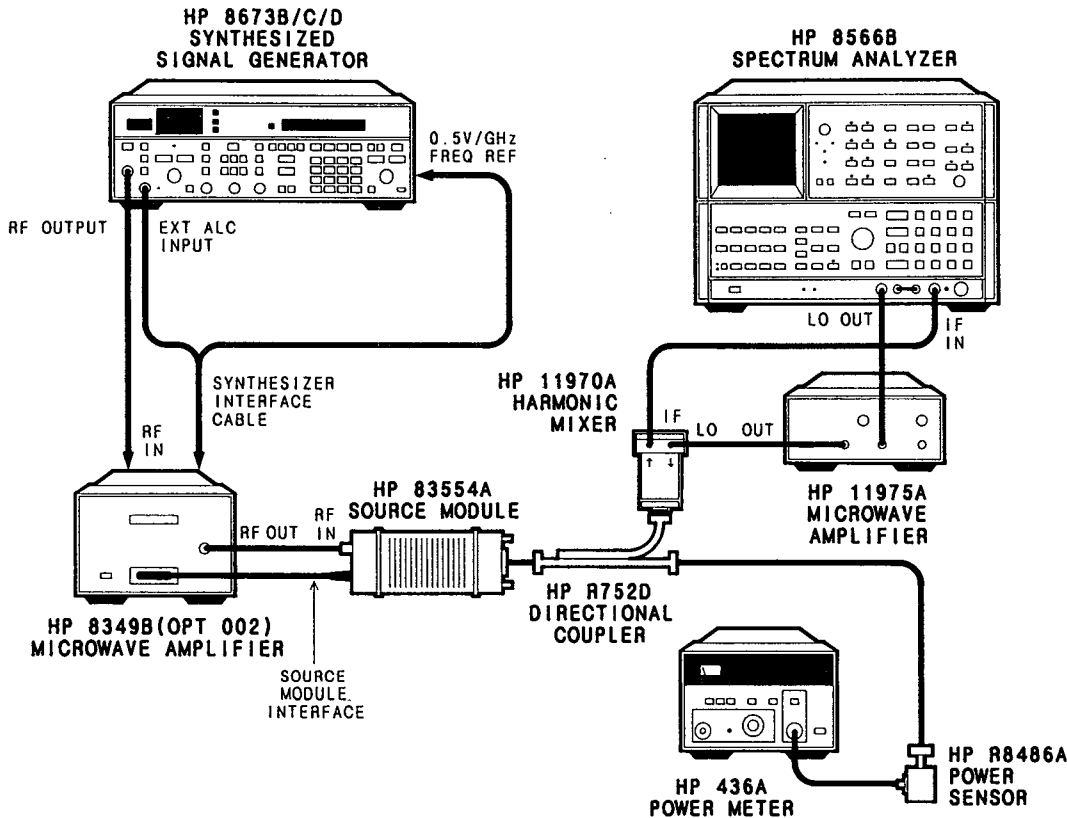

Figure 2-9. Spurious Signals Test Setup
The RF output signal from the millimeter-wave system is tuned from 26.5 to 40.0 GHz using the HP 8673B/D or from 26.5 to 37.2 GHz using the HP 8673C. The system output frequency is displayed on a spectrum analyzer to verify that any harmonic spurious signals are at or below their specified levels. The test configuration in Figure 2-9 uses an external harmonic mixer to extend the frequency range of the spectrum analyzer. When this technique is used, the response is not preselected and multiple signals are displayed that are not necessarily in the frequency band displayed on the spectrum analyzer. Each response must be examined not only for amplitude level but also to determine whether it is a true in-band spurious signal by using the spectrum analyzer's signal identification function.
1. Connect the equipment as shown in Figure 2-9.
Because the test configuration in Figure 2-9 specifies that the external mixer be connected to the coupled arm of a 20 dB directional coupler, the coupled power must also be taken into account when calculating reference level offset. The new equation is as follows: